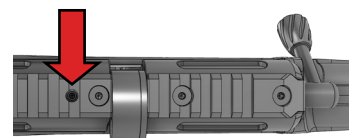

FIG 5 AIR-LEAK SCREW
- Turn the pressure-adjust screw in clockwise, just turn a little bit, cocking and shooting 1-2 shots, then check the regulator pressure gauge. If the pressure is more than 5 MPa, repeat the above action; If the pressure is just 5MPa or less, slowly turn the air-leak screw (SEE FIG 5), until the air is leaking, then turn the pressure-adjust screw in anticlockwise, until the air has completely leaked and the gauge shows zero.